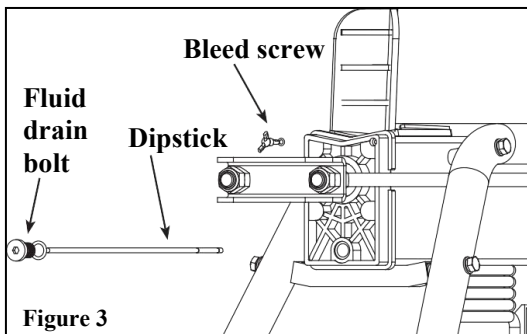

Figure 3
7. While keeping the log splitter vertical, clean the surface of dipstick on the fluid drain bolt and put it back into the oil tank. Make sure the level of the refilled oil is between the two grooves around the dipstick as shown in figure 3.